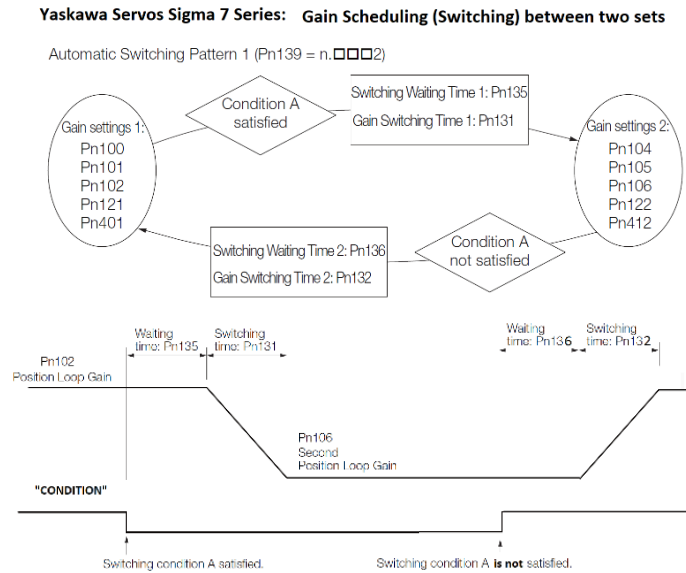

Fig. A-8: Gain scheduling example in servo tuning: Yaskawa Sigma 7 series servo drive case.
- 13. gain scheduling: multiple sets of the gains can be determined in advance, and in real time, gains can be switched from one set to another set based on a logic that is dependent of measurements. For example, there can be two sets of tuning parameters; Gain Set 1 and Gain Set 2. We can define a “Condition” to switch between Gain Set 1 and Gain Set 2. The “Condition” can be any condition, i.e., when the commanded velocity is zero. Furthermore, the switching condition can be defined to have a delay time period after the “Condition” is TRUE, and that the gain values are linearly interpolated between two values (for each gain) for within a transition time period. An example is shown below (Fig. A-8)